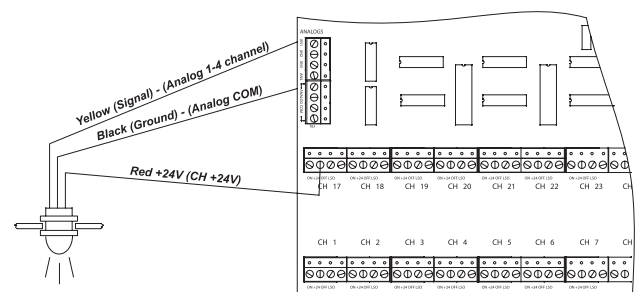

Figure 4. ControlKeeper T Analog Input Wiring
6. Ensure that the local remote jumpers have been moved to the local position (over pins 2 & 3) for both jumpers (J9 & J10) to enable 24 VDC to the low voltage switch channels. See Figure 4 for location.
7. Please see wiring detail in Figure 4 for details on connections of a Greengate provided analog photocell to the ControlKeeper T system.